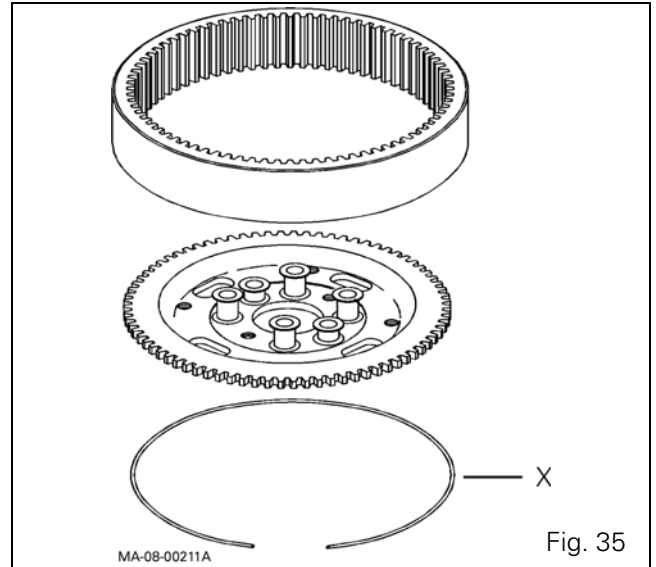

Fig. 35
34. Pre-position the assembly consisting of the ring gear carrier and the epicyclic ring gear with special snap ring X, as shown in Fig. 35.